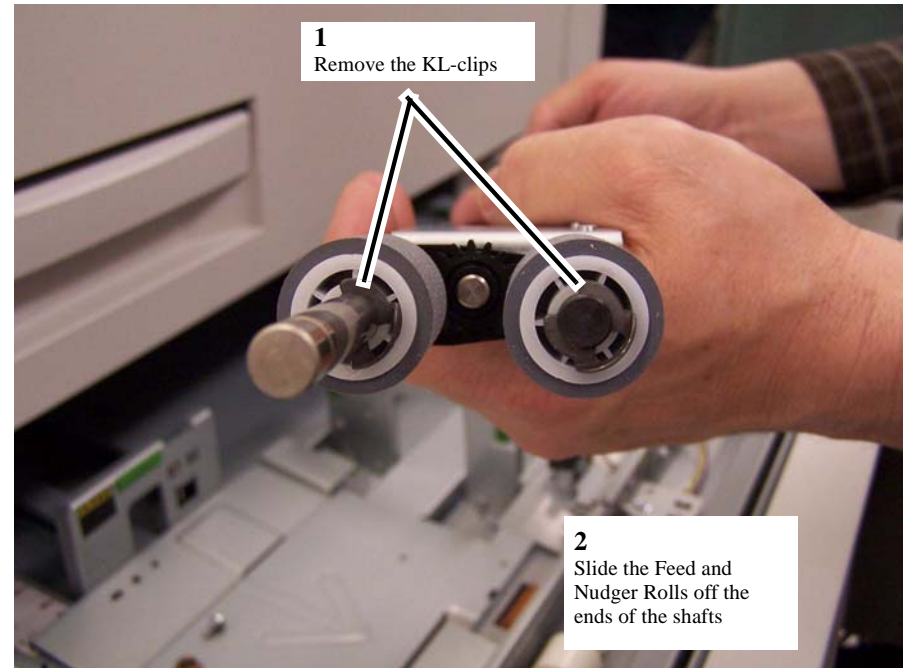

Figure 6 Removing the Feed and the Nudger Rolls
6. Remove the Feed and Nudger Rolls (Figure 6).